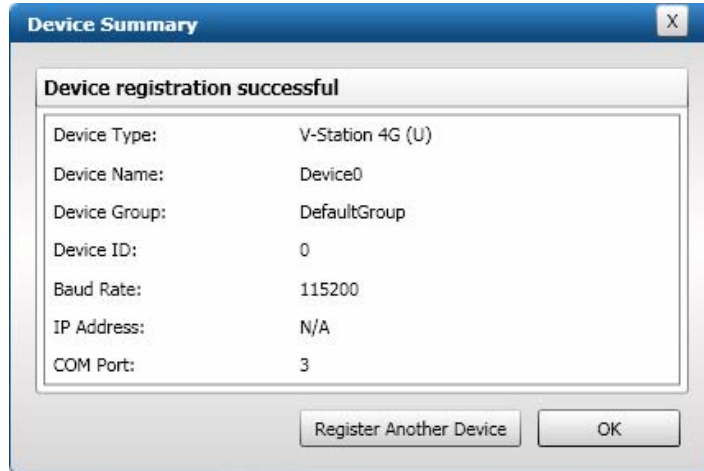

Figure 6-9: Device Summary Dialog Box
12. Click **Register**. The Device Summary dialog box is displayed (see Figure 6-9 on the next page).